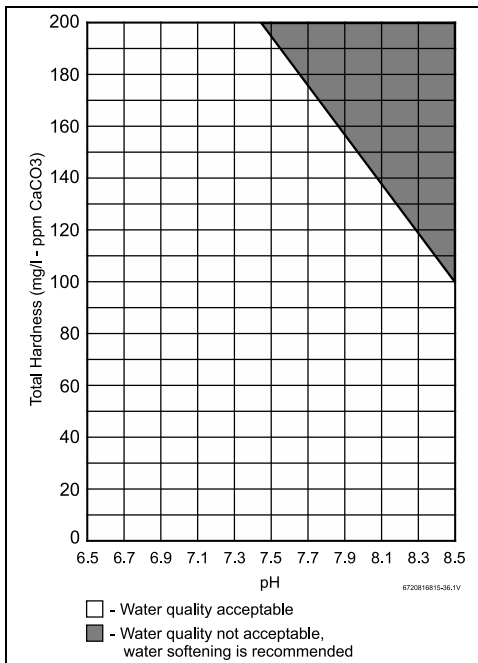

Fig. 26 Water total hardness and pH values
Water quality can have an impact on appliance longevity. Water supplied to the Infiniti Tankless™ K-Series must be in accordance with table 16 and fig. 26.
For water analysis data call your local water department, or if on a well, have well water analyzed periodically. Heavy scale will form if the combination of water total hardness and pH exceeds the values specified in fig. 26 (grey area), Bradford White recommends consulting a local water treatment professional for water softening/conditioning options.
1. Total Hardness and pH maximum values must be evaluated in combination. Indicated maximum values will be reduced according to fig. 26.